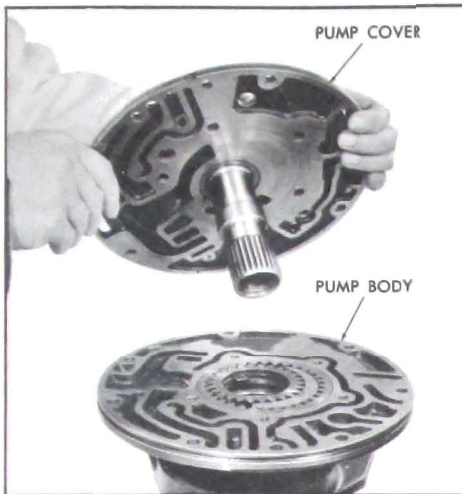

Figure 5-606
10. Assemble pump cover to pump body with attaching bolts and clip adjacent to stator valve. See Figure 5-606.